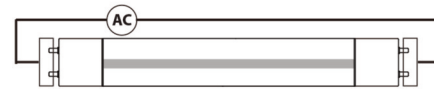

Figure 1. - Double-Ended connection
6. MaxLite LED T8 lamps are designed for double-ended connections only (**Figure 1**).